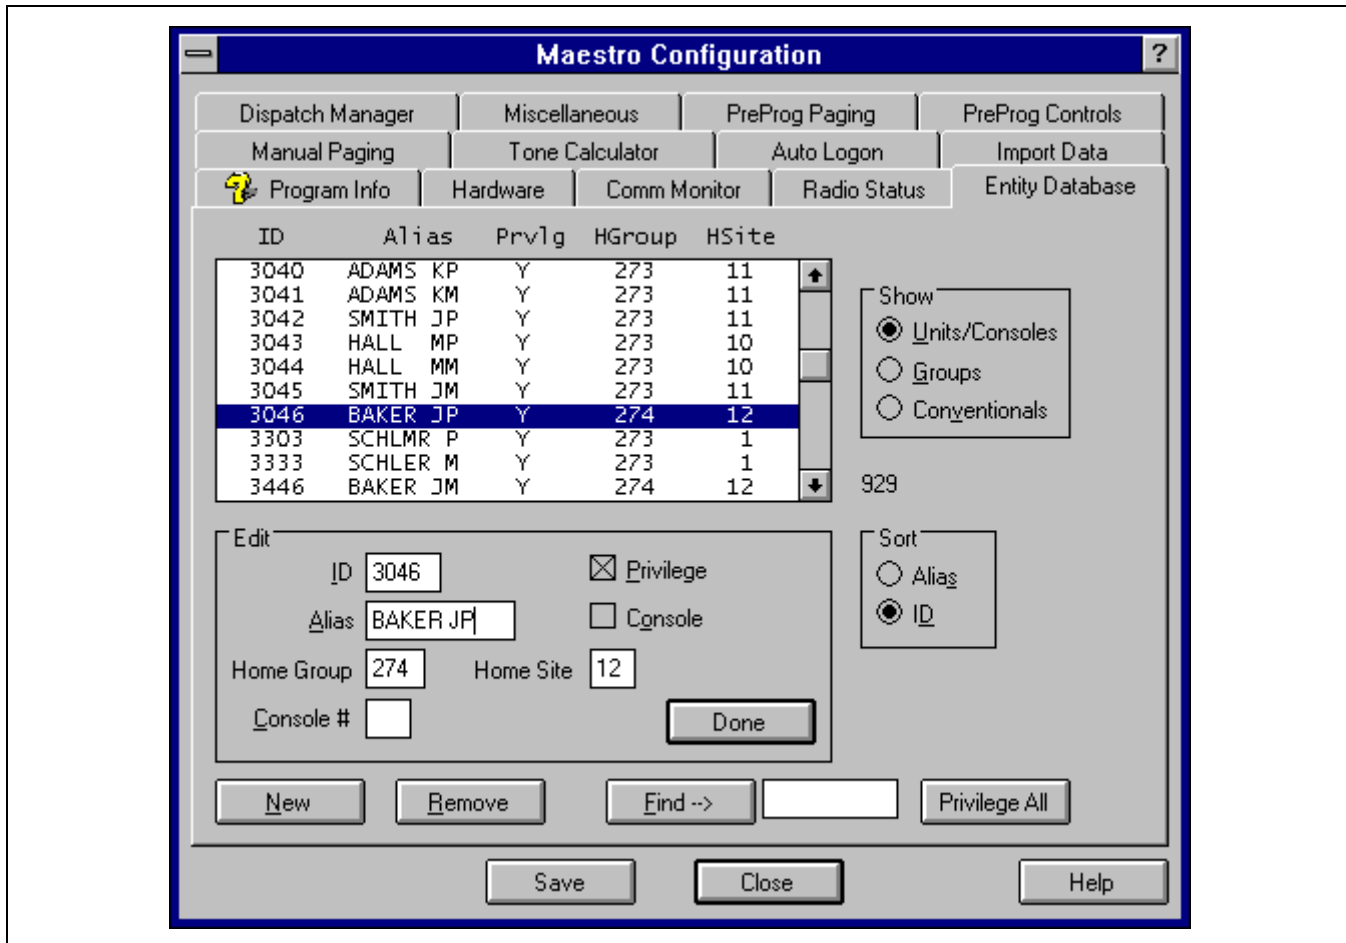

Figure 6-18 — Configuration Editor's Entity Database Editor Dialog Box
2. Via one of the Show option buttons in the dialog box, select the desired entity type—units/consoles, groups or conventional channels. The entity record listing will update appropriately. For example, as shown in Figure 6-18, select Units/Consoles to display only unit and console entity records.